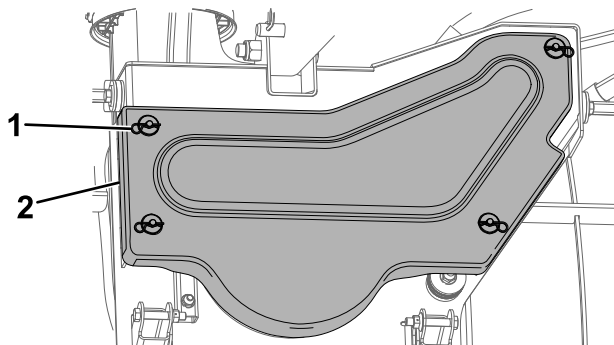

Figure 33
3. Remove the 4 hairpin cotters securing the belt cover (Figure 33).
7. Install the belt cover and secure it using the 4 hairpin cotters (Figure 33).